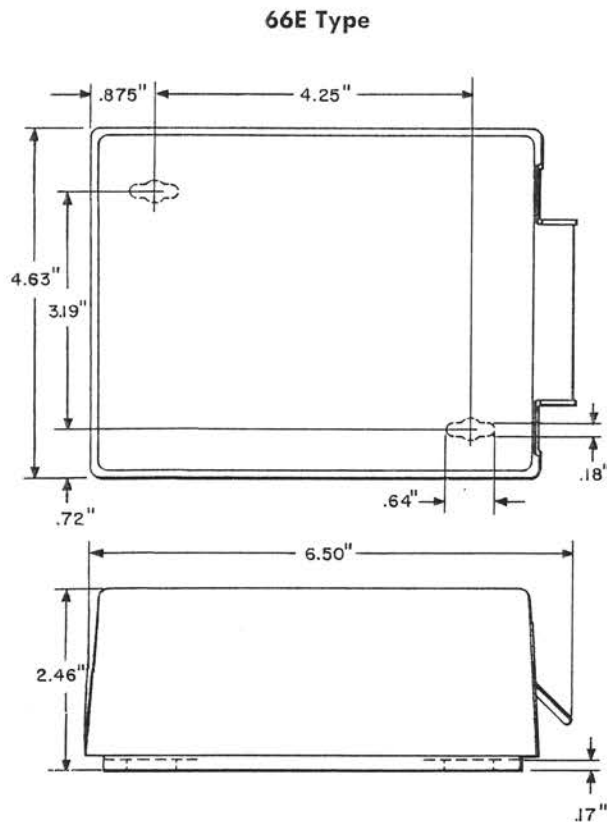

Fig. 1
**66E3-25:** Equipped with a snap-on cover and arranged for wall mounting. A cable trough and fanning strip are provided. See Fig. 1.